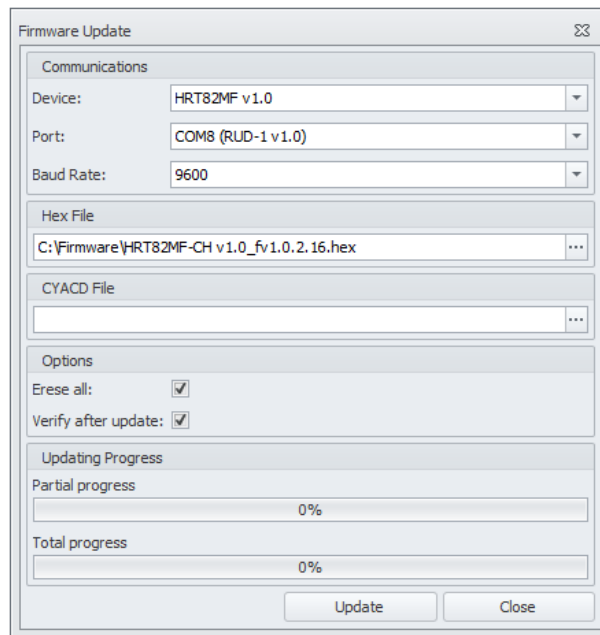

Fig. 8 Firmware update window in RogerVDM software
5. In the opened window select device, port with connected RUD-1 and specify path to firmware file (\*.hex) – see fig. 8